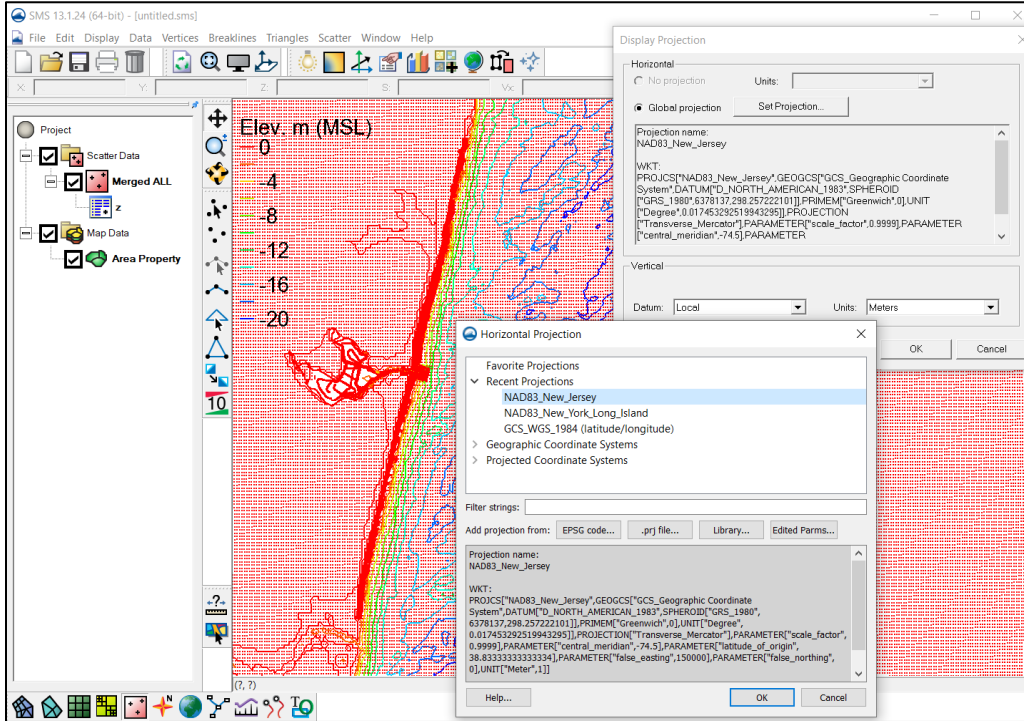

Figure 2. Display Projection dialog.
- Select “New Jersey (FIPS 2900)” from the *Zone* drop-down (Figure 2).